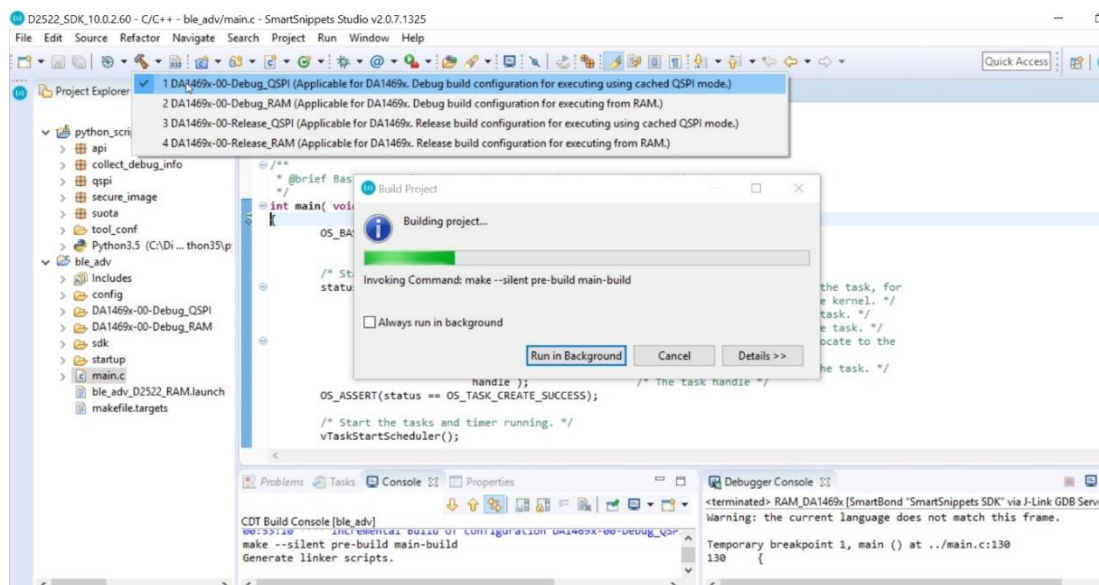

Figure 40: Build ADV BLE in Debug QSPI configuration
2. Build the project pressing the **build** button and select the Debug QSPI configuration **DA1469x-00-Debug-QSPI** as shown in **Figure 40**.